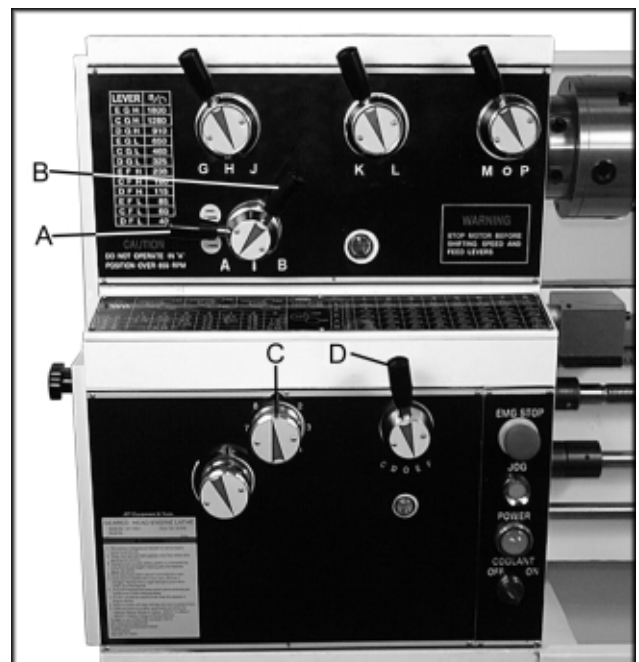

Fig. 20
2. Set selector levers (A, B, C, & D, Fig. 20) to desired rate.
2. Set selector levers (A, B, C, and D, Fig. 20) to desired rate.